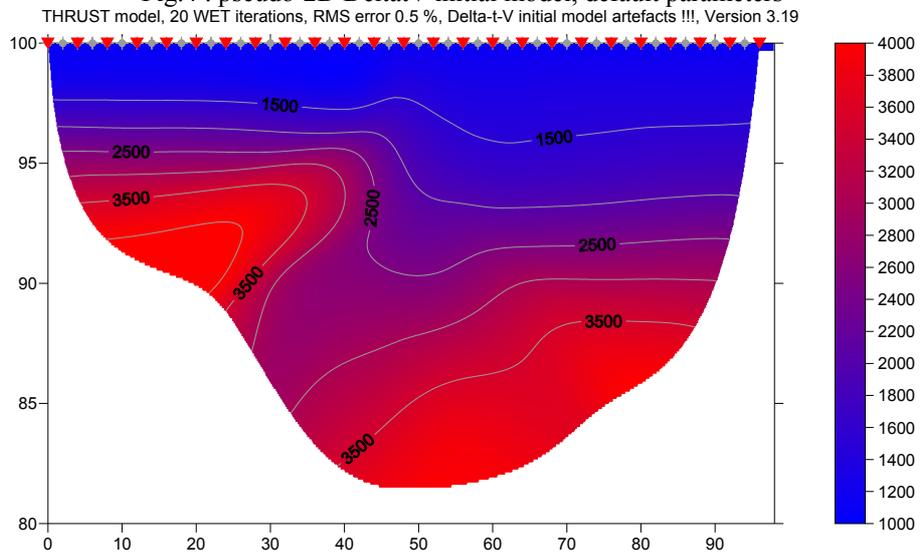

Fig. 5 : 20 WET iterations with pseudo-2D DeltatV initial model (Fig. 4). WET Wavewidth 2%.
- click buttons *Accept parameters* and *Start tomography processing*. Obtain Fig. 5.